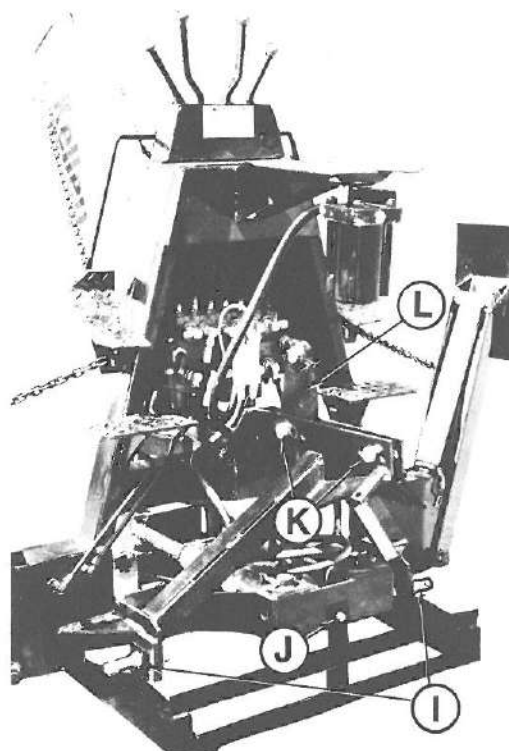

Figure 6
20. Remove the two lower link pins (I of Figure 6) and bolt (J) so that the shipping pallet may be removed from the backhoe. You may discard the pallet, as it is only necessary for shipping.
23. Remove the bolts and hardware at K of Figure 6 in order to free the top link (L of Figure 6).